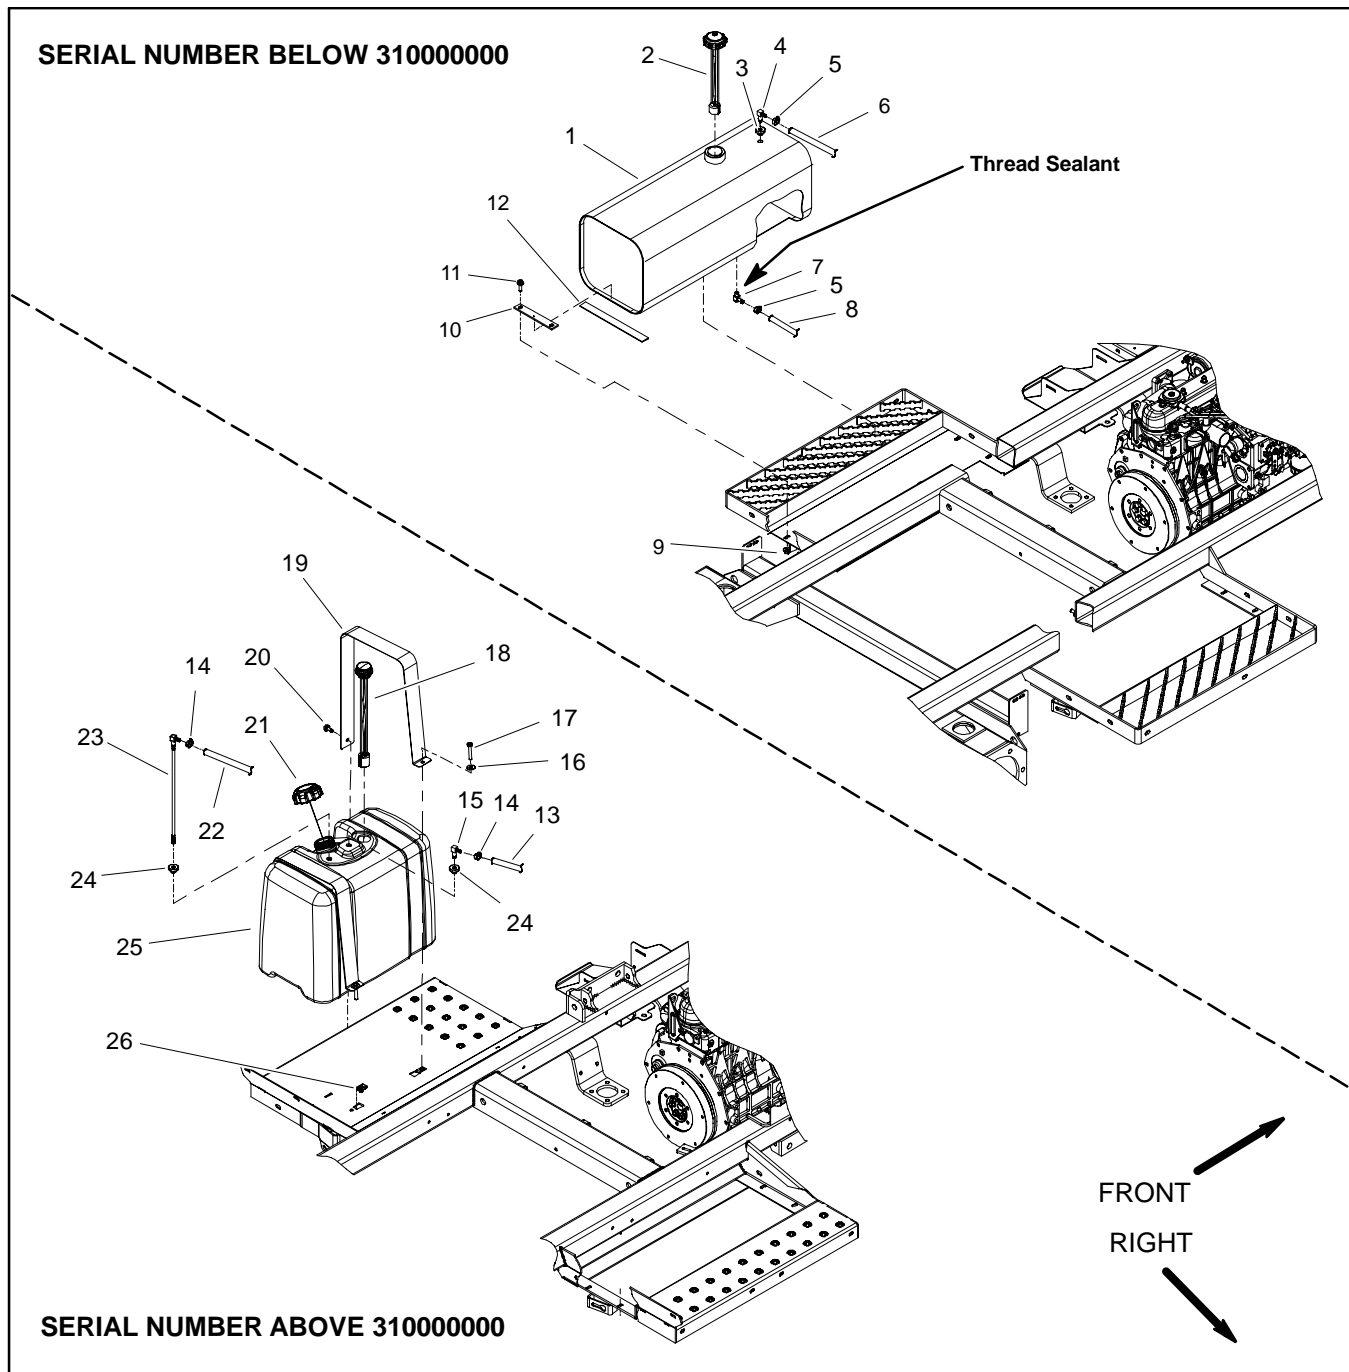

Figure 1
4. Remove fuel tank from machine using Figure 1 as a guide.
1. Install fuel tank to machine using Figure 1 as a guide.